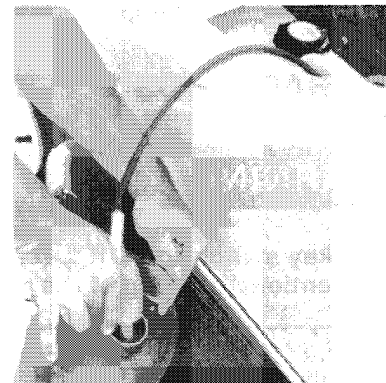

Figure 3-11
2. Using a siphon with a suction device (Figure 3-11), drain all of the gasoline out of the tank into an approved gasoline container.